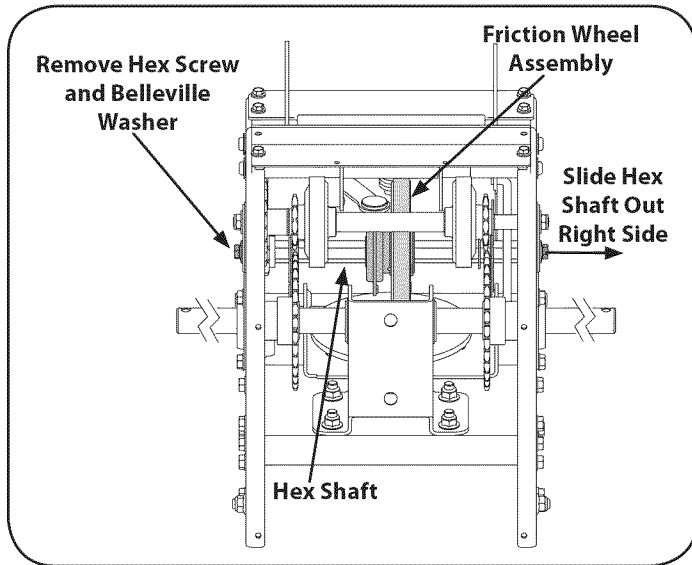

Figure 37
- Using a 3/4" wrench, hold the hex shaft and remove the hex screw and belleville washer and bearing from left side of the frame. Refer to Figure 37.